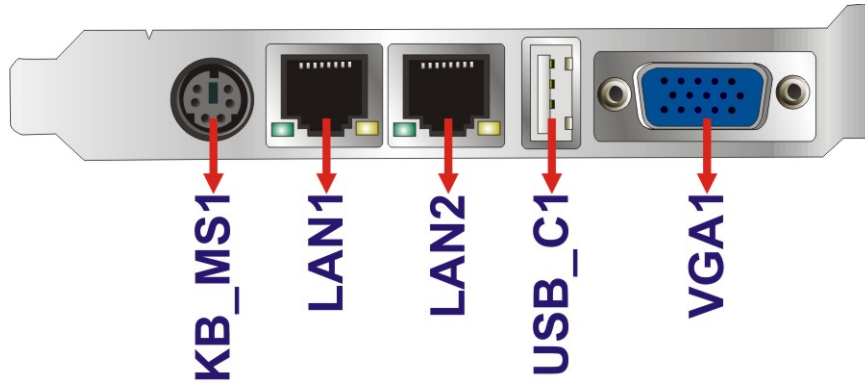

Figure 3-20: External Peripheral Interface Connector
- CN Location:** See **Figure 3-20**